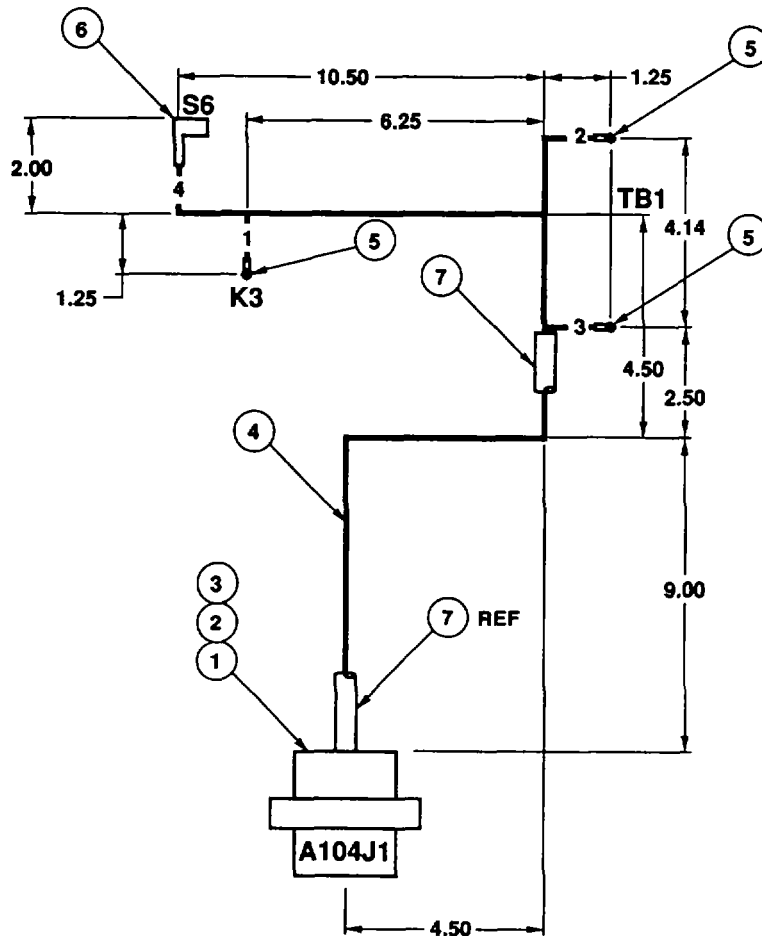

Figure F-1. Wiring Harness A104J1.
- b. Remove and discard electrical cable clamp (Figure F-1, 2), insulation sleeving (3), and insulation sleeving (7) from connector (1) and wiring.
- d. Cut wire to dimensions shown in Figure F-1.
- f. Install wire in connector (1).
- g. Install new electrical cable clamp (2), insulation sleeving (3), and insulation sleeving (7), as shown in Figure F-1, and heat shrink to a firm fit.